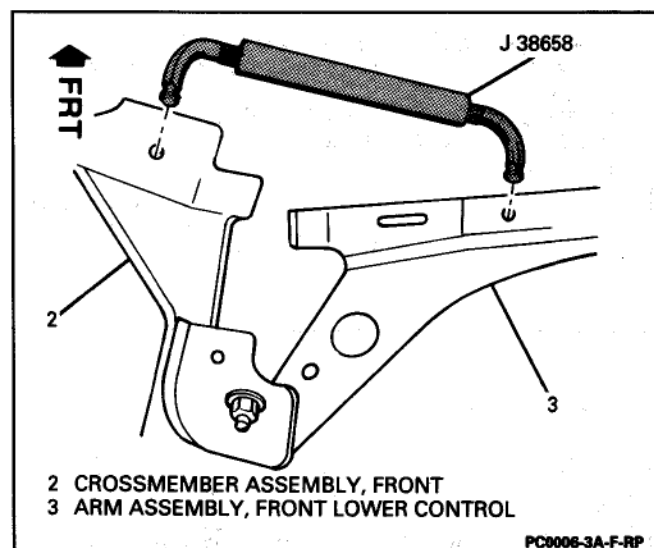

Figure 7 – Front Camber Adjustment
6. Install J 38658 to slot holes in lower control arm assembly (3) and front crossmember assembly (2) (Figure 7).